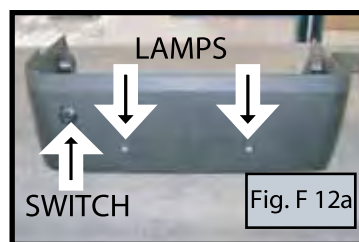

Fig. F12a
1. Using photos locate where Lamps are to be placed . (Fig. F12ab)